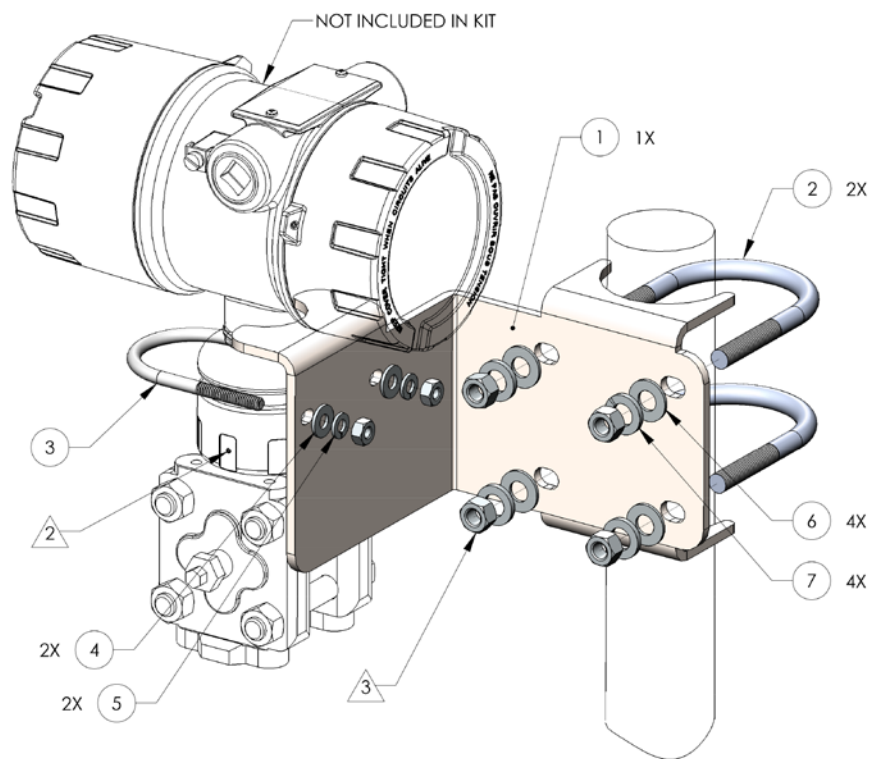

Figure 2-10. Pole Mounting Procedure
You can mount the AutoXP directly to the orifice fitting or to a two-inch pole. Refer to the following instructions for mounting the enclosure onto a 2-inch pole. Refer to Figure 2-10, Pole Mounting.
2. Facing the front of the enclosure, use item 3, Figure 2-10, to hold the enclosure against the bracket. Facing the rear of the enclosure, place flat washers and lock washers over the threads on item 3, Figure 2-10, and fasten with nuts.
Loosen set screw (Note 2, Figure 2-10) to adjust meter orientation, maximum 180 degree rotation from starting point.